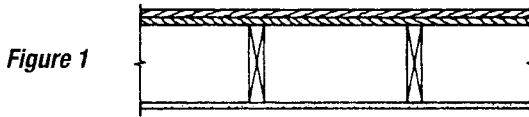

Figure 1
The major sources for dimension lumber fire-endurance assemblies are the *Fire Resistance Design Manual* published by the Gypsum Association, the *Fire Resistance Directory* published by the Underwriters Laboratories, Inc. (UL), and Section 720 and Table 720.1 (3) of the 2006 *International Building Code*. The major source for metal plate connected truss fire-endurance assemblies is found at [www.sbcindustry.com](http://www.sbcindustry.com). There are numerous fire-endurance assemblies detailed in these sources. These assemblies include different options, such as the direct application of gypsum, or the use of resilient channels, insulation or suspended ceilings. They range in performance from 45 minutes to 2 hours. The most common dimension lumber and truss fire-endurance assemblies are detailed in Figures 1 – 5 to the left.
(1) Dock & Harbor Authority, London, England, "What About Fire?", American Institute of Timber Construction, 1972, p.3.